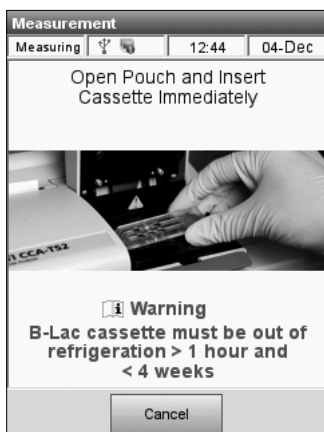

Fig. 5-10 B-Lac Open Pouch
- Open the OPTI Sensor Cassette pouch and remove the cassette (Fig. 5-10). After opening the pouch, proceed with the following steps immediately.
- Insert the cassette into the chamber. Press down to ensure that the cassette is seated properly (Fig. 5-10).